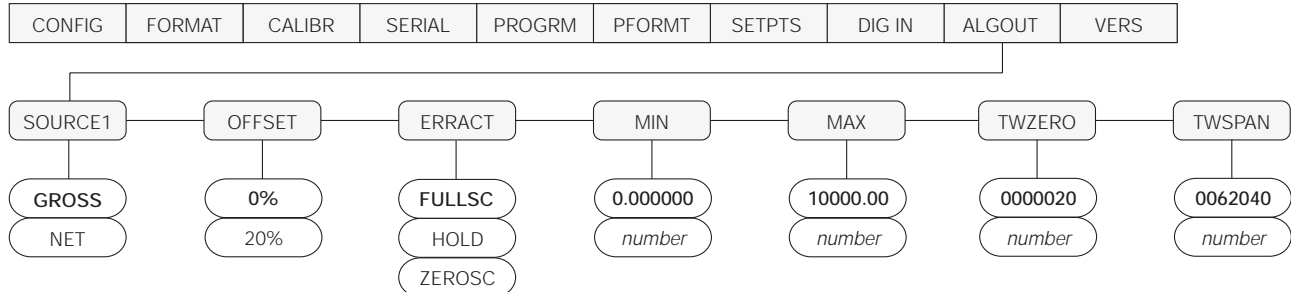

Figure 12-5. Analog Output Menu
1. Enter setup mode and go to the ALGOUT menu (see Figure 12-5):